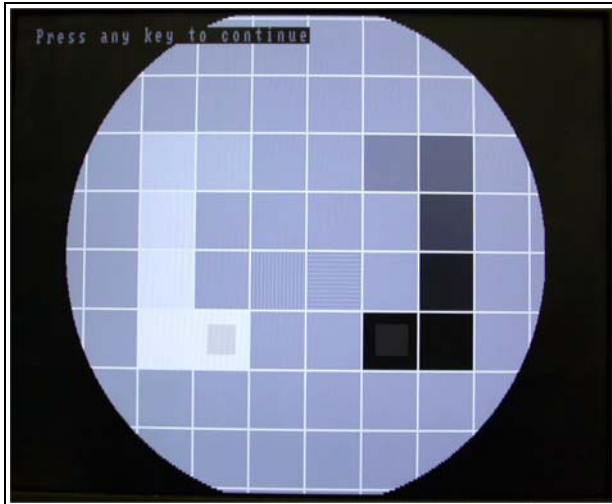

Fig. 4
- Check the geometry of the displayed test pattern. It should be displayed as shown in Fig. 4. If adjustments are necessary, follow the description "Manual programming" (page 16).